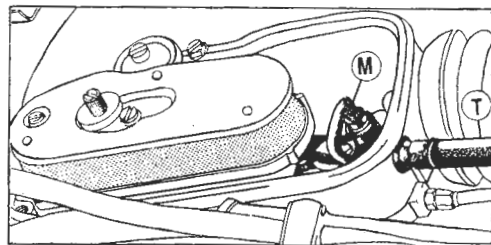

Fig. 10
The petrol is fed to the carburetor by a normal gravity system. The oil is supplied in the suction pipe by means of an AOM device 'M' (fig. 10) comprising of a piston pump with variable stroke. This is controlled by crank shaft through a gear transmission.
**Note:** Take care that the oil inlet pipe 'T' (fig. 10) from oil tank to the 'AOM' device is completely full of oil. If air bubbles are present, take off the pipe 'T' from the 'AOM' device, let some oil flow out so that the air bubbles are eliminated. Reconnect the pipe.